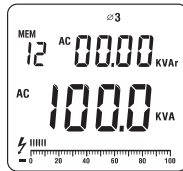

Figure 19
- Press **SELECT** again to choose the third phase $\varnothing 3$, see figure 19.